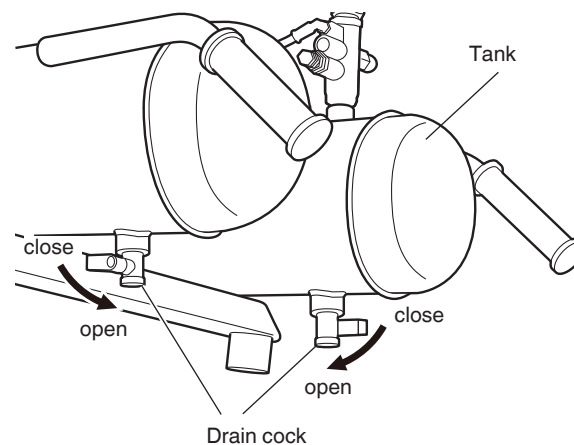

Fig. 12
- B) Gradually open the drain cock, take out the drainage and all the compressed air inside the tank to prevent any internal corrosion of the tank (Fig.12).
Drain tank daily or after 4 hours of use. Open drain cock and tilt compressor to empty accumulated water (Refer to Fig. 12).